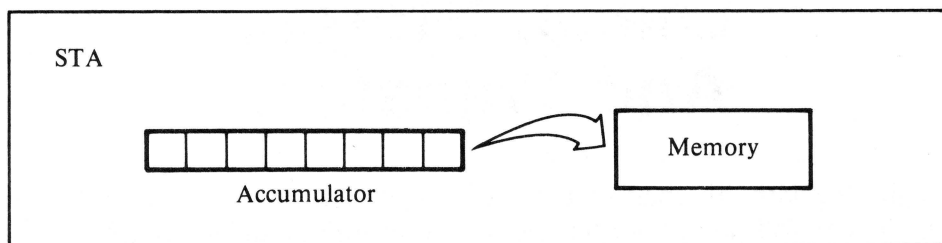

Figure 8-2. Store accumulator in memory
- **STA** — Stores accumulator in memory. This transfers the contents of the 6502's accumulator register into a specified byte of memory (see Figure 8-2).